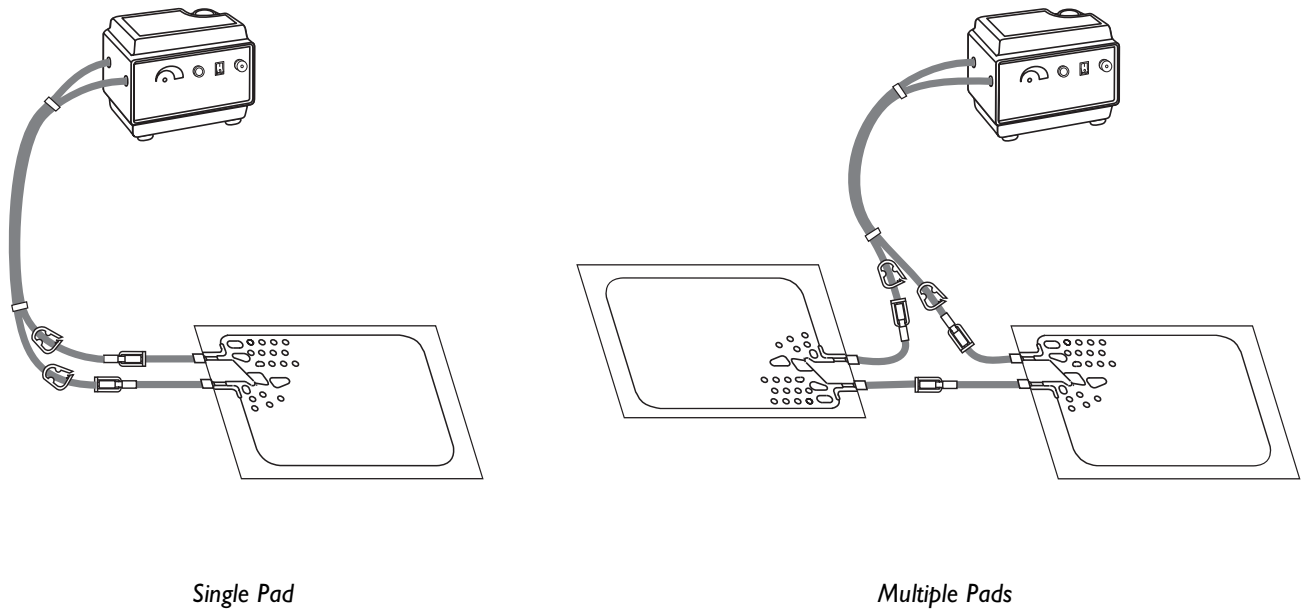

Figure 1 - T/Pump Heat Therapy System
Attached Hose with Klik-Tite Connectors	10 ft (305 cm) dual channel. Connectors have male/female fittings (see fig. 3, p. 6) allowing pads to be interconnected, providing therapy to more than one body site at a time (fig. 1, p. 3).
NOTE: Refer to figure 1 (p. 3) and item 9 (p. 7) when connecting multiple pads.
For best results use only GAYMAR T/Pads® or Mul•T•Pads®. The unique button design allows water to flow and provides trouble free operation when the pad is folded. This reduces the number of different sizes of pads your facility must keep in inventory. The T/Pads can be interconnected to provide therapy to more than one body site at a time (see fig. 1, p. 3). For a brochure listing the various T/Pads, contact the GAYMAR Customer Service Department (see inside cover for telephone numbers).